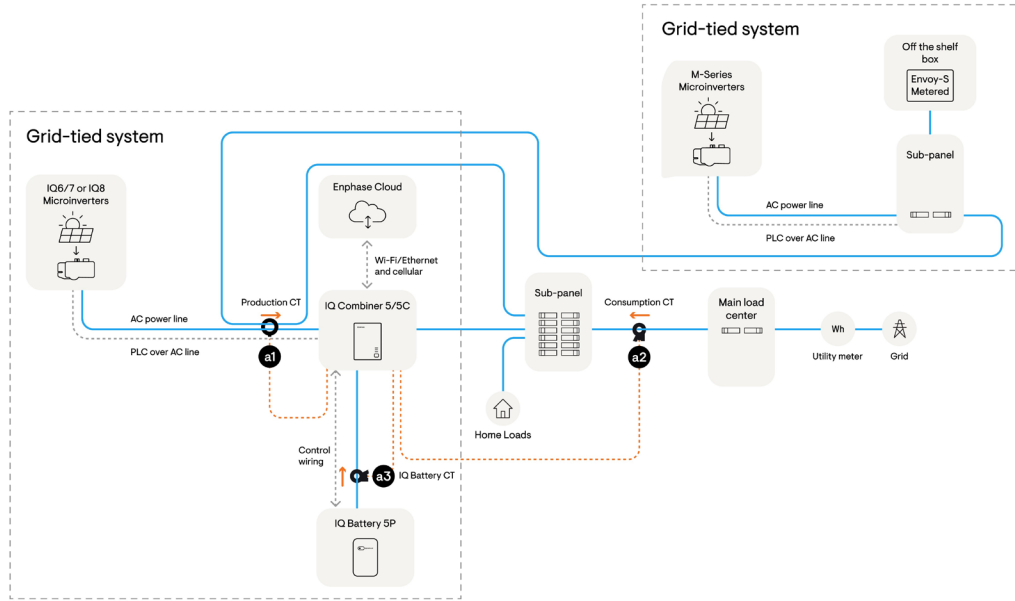

Figure 17: Scenario 2B
B. If there is no access to utility lines, AND if it is possible to rewire the existing PV system (where the power lines from the subpanel in the existing PV system (with M Series microinverters) is terminated on the subpanel with home loads as shown in Figure 17), then
a1	The PV branch to the IQ Combiner AND the power lines that originate from the subpanel in the grid-tied system (with M Series microinverters) and terminate on the subpanel with home loads, both running through the Production CT (a1) it as shown in Figure 17 .